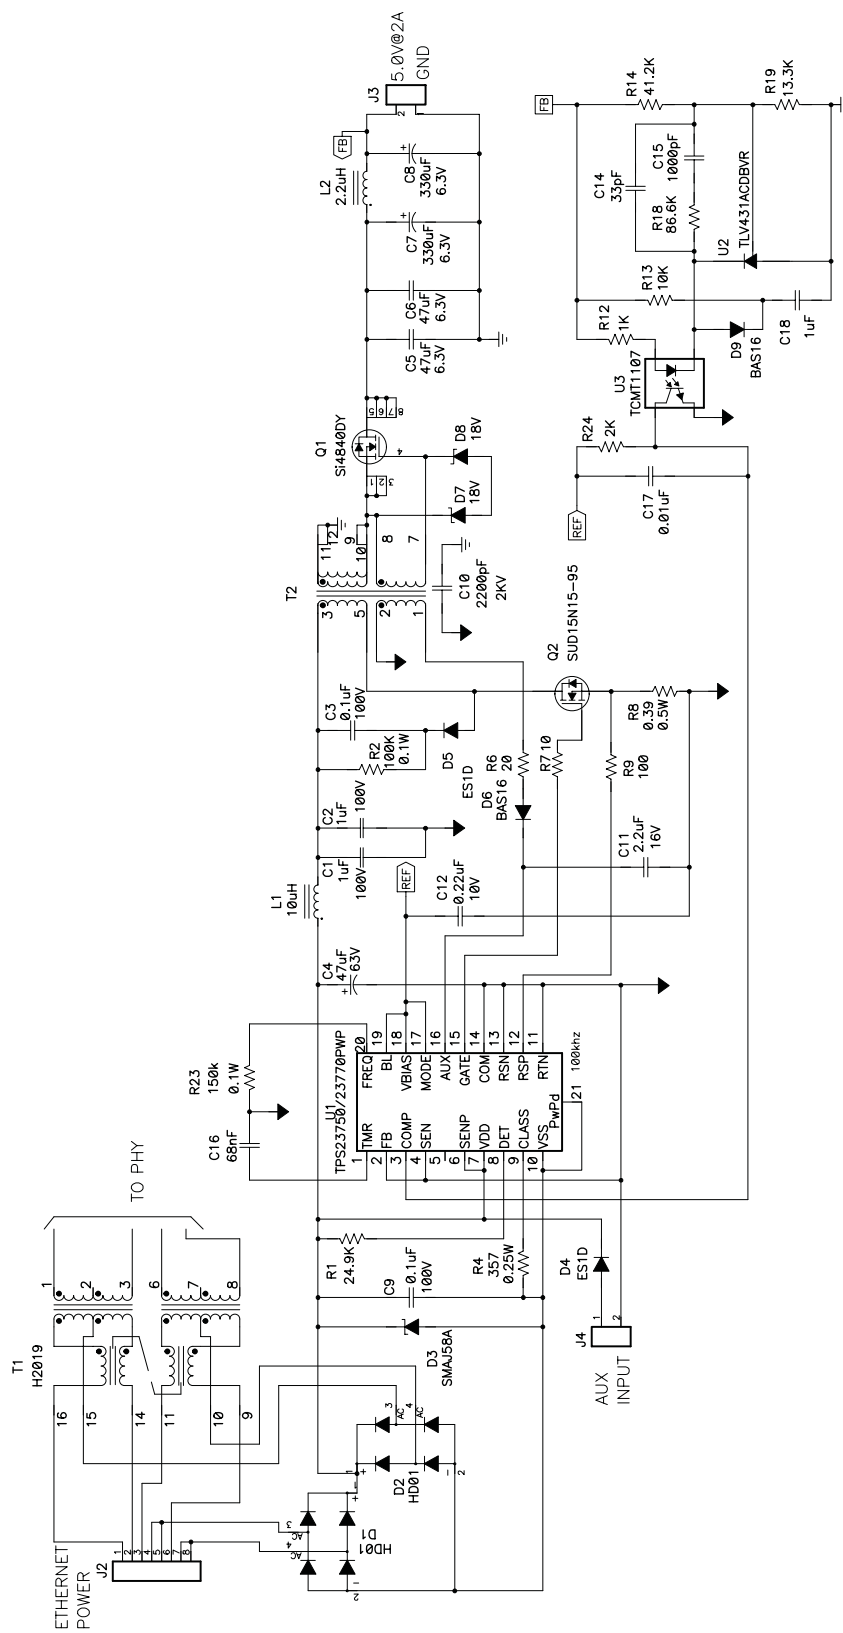
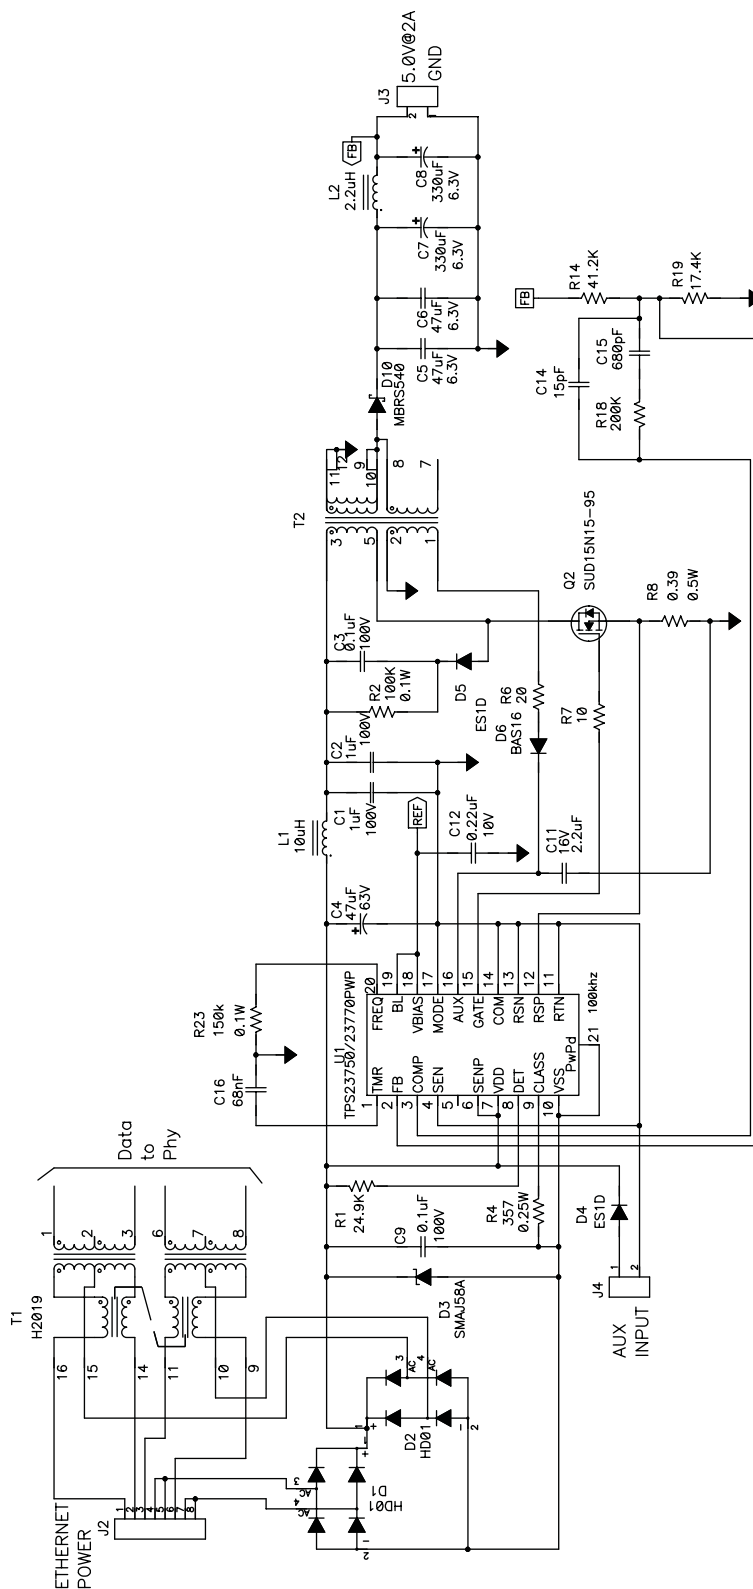
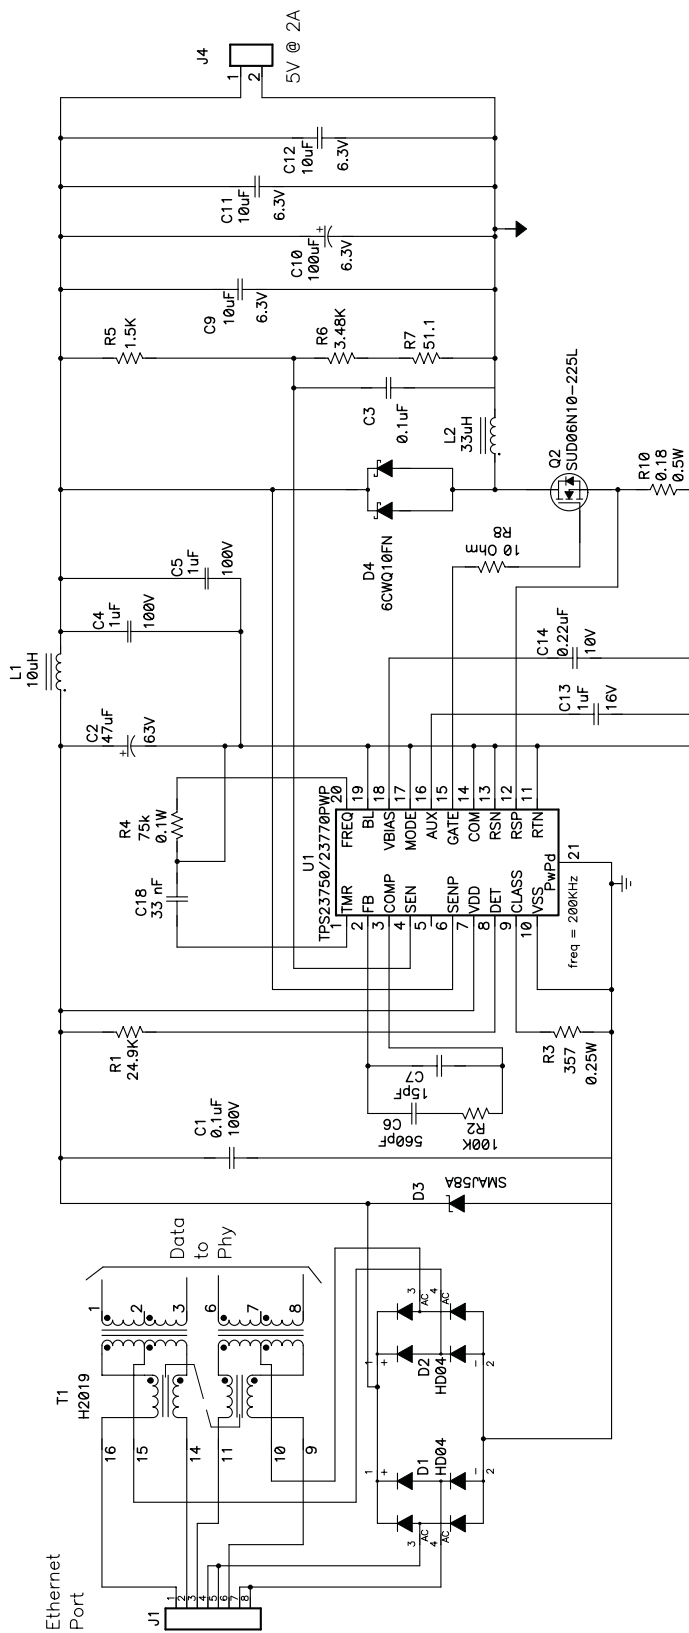

Figure 38. Isolated Flyback Example
Figure 39. Non-Isolated Flyback
Figure 40. Buck Converter Example
Applications that use a transformer-coupled circuit can override the internal AUX regulator by means of an additional winding as shown in Figure 38. Under a fault condition, such as an output short, the AUX regulator is active. Significant instantaneous power can be dissipated based on the gate drive loading, however the optocoupler does not draw power when this occurs. TMR limits the average operating duty cycle to less than 10%, which greatly reduces internal power dissipation.
The TPS23750 will work with almost any conventional circuit. Figure 38, Figure 39, and Figure 40 demonstrate the TPS23750's use. Figure 38 is an isolated synchronous flyback, Figure 39 is a non-isolated flyback, and Figure 40 is a buck converter variant. Each of these circuits provides a single output. Multiple outputs can be created by use of techniques such as multi-secondary transformers and combinations of linear and switching regulators. These three circuits form the basis of the two EVMs available for this product.
The isolated synchronous flyback of Figure 38 is appropriate where the PD has a non-isolated metallic interface such as RS-232 or USB, or cannot pass 1500V hipot per IEC60950 section 6.2. A forward converter can also be used for this application.
The nonisolated flyback of Figure 39 resembles the isolated version. This converter is sometimes used to generate multiple outputs in applications where there are no metallic interfaces and the PD can meet the IEEE802.3af 1500 V hipot without isolation. Multiple outputs can be provided by adding secondary windings to T2 along with diodes and capacitors. The synchronous rectifier has been replaced by a diode for demonstration purposes. While the diode is simpler and cheaper, the synchronous rectifier's lower power loss improves efficiency for low-voltage, high-current outputs. T2 winding 7-8 is not needed for a production design. The TL431 based error amplifier and optocoupler have been removed, and the TPS23750 internal error amplifier has been enabled by tying MODE to RTN. FB and COMP are used in a standard error amplifier topology for control and compensation.
**Figure 40** illustrates a particular form of buck converter where the output is derived with respect to the positive input rail. The application circuits are connected across the output, shown on J4, with terminal 2 as the application circuit ground reference. This type of circuit is applicable to those PDs that don't have outside connections other than the Ethernet cable, and where the load requirements can be met with lower efficiency.